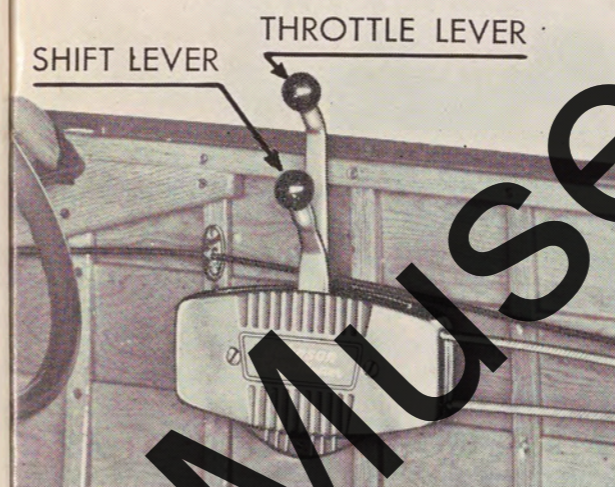
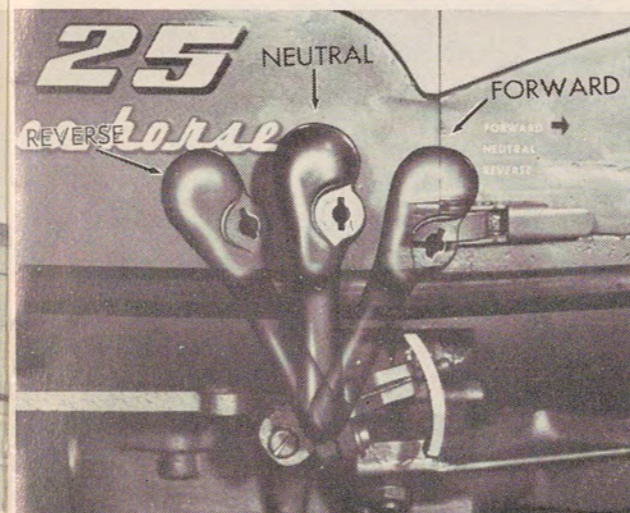

Figure 9
Figure 13
or the throttle lever (Figure 9) if operating with JOHNSON SHIP-MASTER REMOTE CONTROL.
Shifting is accomplished by an arrangement of gears in the gear-case through linkage with the shifting lever conveniently located for ease of operation (Figure 13). If operating with JOHNSON SHIP-MASTER CONTROL see Figure 9.
4. Advance throttle lever toward FAST until it stops (Figure 9). Throttle and shift lever are now in position to start motor.
- Move gear shift lever to center or NEUTRAL position (Figure 13). DO NOT START MOTOR IN GEAR!
- Reduce motor speed before shifting—SNAP shift lever with QUICK ACTION to FORWARD position or REVERSE position (Figure 13) as desired.